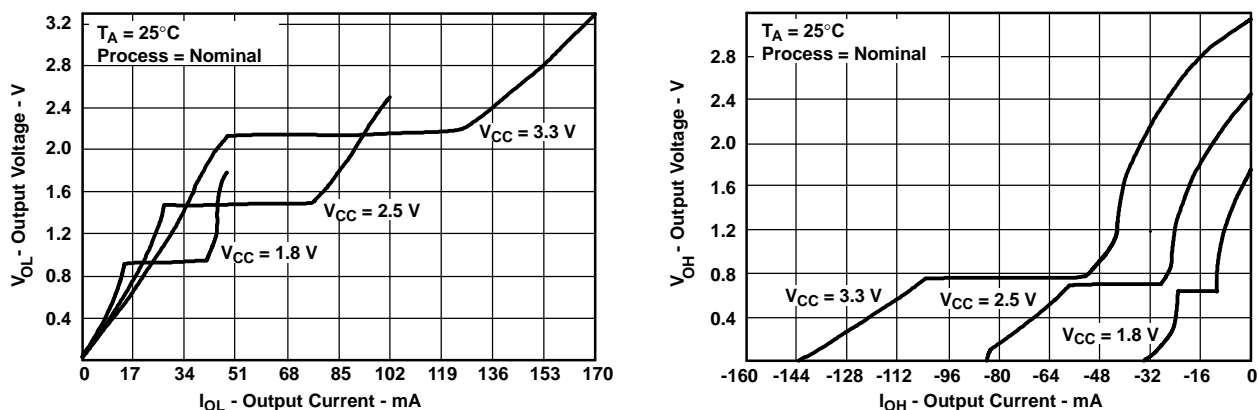

Figure 1. Output Voltage vs Output Current
A Dynamic Output Control (DOC™) circuit is implemented, which, during the transition, initially lowers the output impedance to effectively drive the load and, subsequently, raises the impedance to reduce noise. Figure 1 shows typical V_{OL} vs I_{OL} and V_{OH} vs I_{OH} curves to illustrate the output impedance and drive capability of the circuit. At the beginning of the signal transition, the DOC circuit provides a maximum dynamic drive that is equivalent to a high-drive standard-output device. For more information, refer to the TI application reports, *AVC Logic Family Technology and Applications*, literature number SCEA006, and *Dynamic Output Control (DOC™) Circuitry Technology and Applications*, literature number SCEA009.
(1) All unused inputs of the device must be held at V_{CC} or GND to ensure proper device operation. Refer to the TI application report, *Implications of Slow or Floating CMOS Inputs*, literature number SCBA004.
(2) Dynamic drive capability is equivalent to standard outputs with I_{OH} and I_{OL} of ±24 mA at 3.3-V V_{CC}. See Figure 1 for V_{OL} vs I_{OL} and V_{OH} vs I_{OH} characteristics. Refer to the TI application reports, *AVC Logic Family Technology and Applications*, literature number SCEA006, and *Dynamic Output Control (DOC™) Circuitry Technology and Applications*, literature number SCEA009.